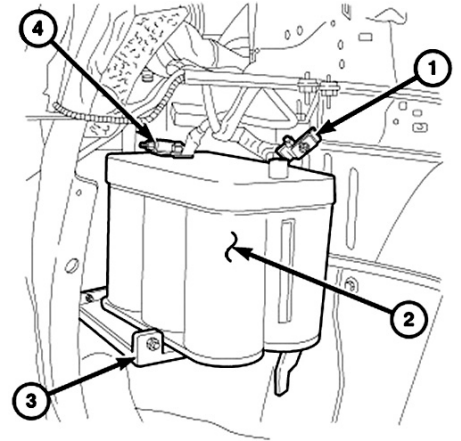

Fig. 3 Battery installation
1. Position battery in battery tray, **Fig. 3**.